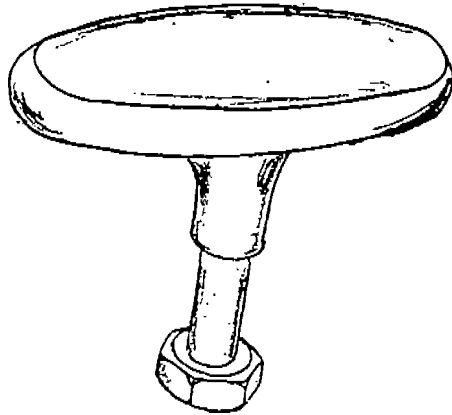

Figure 18. Air Shut-Off Valve Handle
- (WEEKLY) 38. () Without refilling the exhaust conditioner, start the engine, operate it at high idle, and engage the emergency intake air shut-off valve. The valve handle is shown in Figure 18. The air shut-off valve closes immediately and shuts down the engine. To accomplish this test, it is necessary to have a helper keep the float in the exhaust conditioner in its upper most position (with exhaust conditioner cover off) for the endurance of the test.